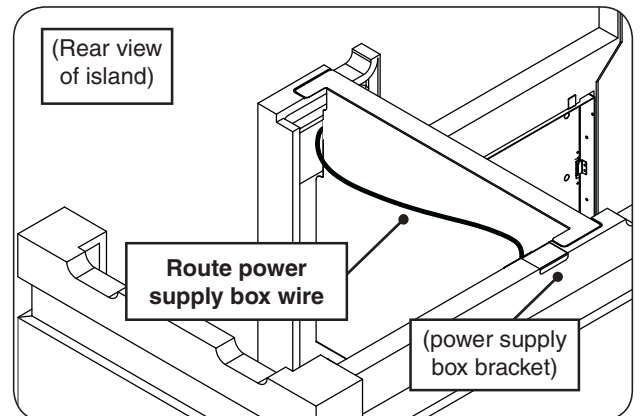

Fig. 10-3 Route power supply box wire
3. Once the box is installed, route the box wire along the heat shield and into the grill area (for future grill installation). See Fig 10-3.